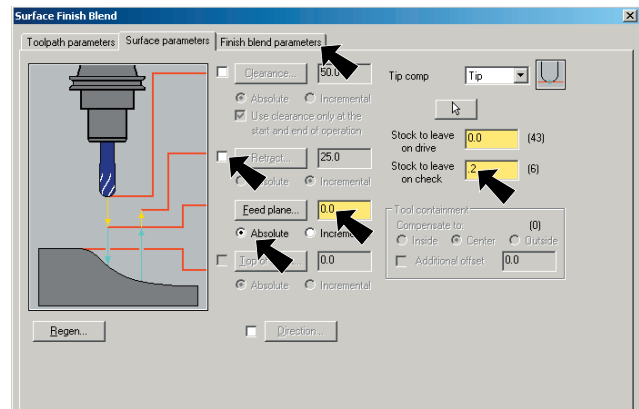

Fig. 89
Step 19. **Uncheck Clearance**, Fig. 89.
Step 23. Click the **Finish blend parameters** tab at the top of the dialog box, Fig. 89.